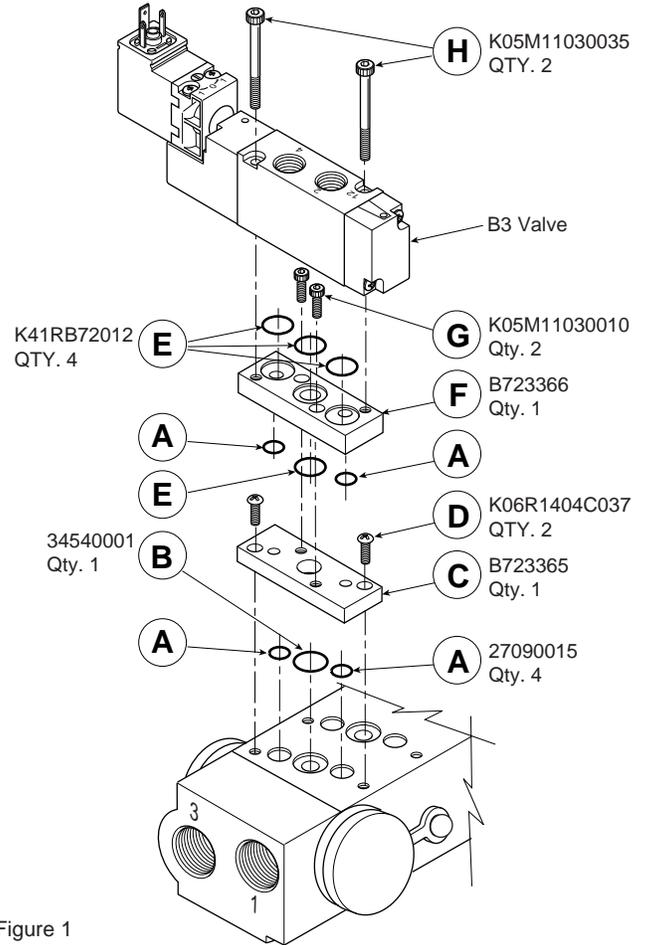

Figure 1
**Installation Instructions (See Figure 1)**
1. Remove Slideair Valve and o-ring seals from manifold and discard. Lightly lubricate (2) o-rings (A) and o-ring (B) and place them in their recessed locations on the manifold body. NOTE: O-ring (B) is slightly larger than o-ring (E).
2. Assemble bottom plate (C) to manifold using phillips head screws (D). Torque to .56 to .64 Nm (80 to 90 in. ozs.)
3. Lightly lubricate (2) o-rings (A) and o-ring (E) and assemble to counterbores in underside of top plate (F). Place top plate (F) on bottom plate (C) orienting to center screw locations. Assemble screws (G) and torque to 1.7Nm (240 in.ozs.).
4. Lubricate lightly (3) remaining o-rings (E) and assemble to counterbores in top plate (F).
5. Fasten B3 valve down using (2) mounting screws (H) included in kit. Tighten to 1.7 Nm (240 in. ozs.) torque.